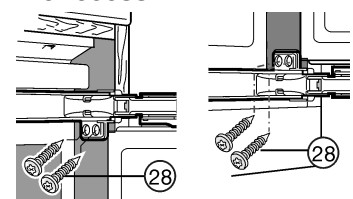

Fig. 22
- Screw chipboard screws *Fig. 22 (28)* on both doors at the top and at the bottom through the hinge plates.